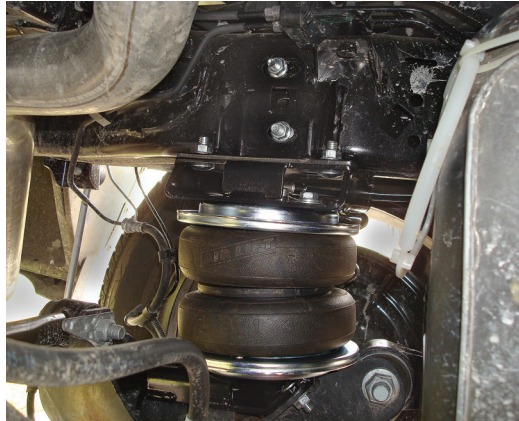

fig. F.1 Inside, forward of axle view of driver's (left) side installation.
1. The images show the finished installation of both sides (Figs. F.1, F.2, F.3 & F.4).